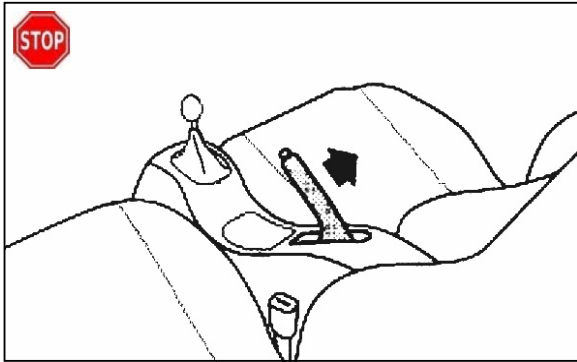

Figure 1
-  (a) Firmly apply parking brake. See Figure 1.